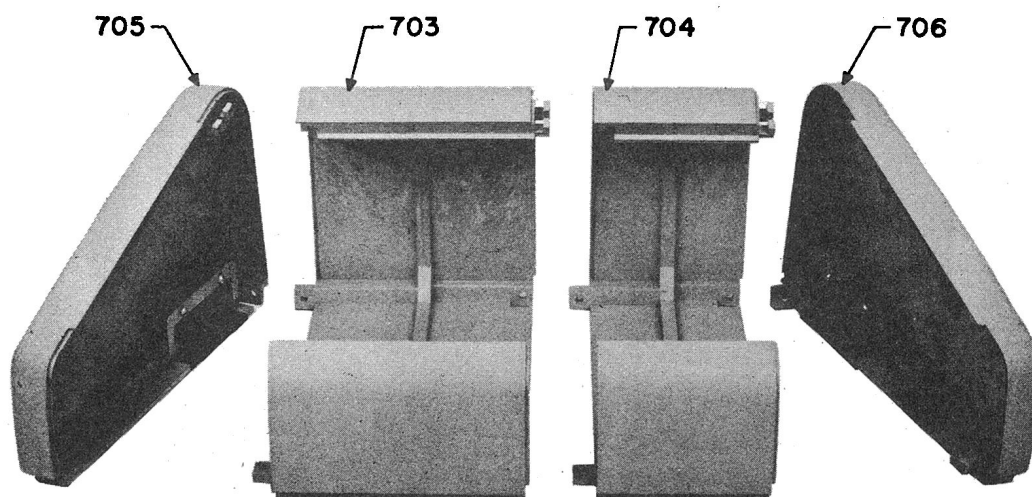

Fig. 17 – Apparatus Cases
7.01 Apparatus cases are designed to house 700-type keys and apparatus units for use on desks, tables, and other horizontal surfaces. A housing may be made by joining together a combination of the following basic cases (Fig. 17):